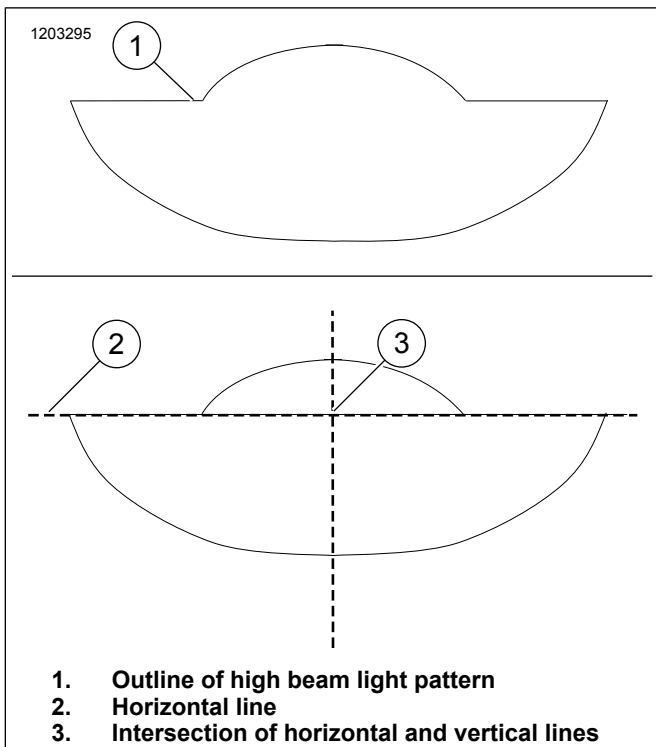

Figure 10. Alignment of Headlamp High Beam
2. See Figure 10. With vehicle laden and upright, point the front wheel straight forward at wall.
3. Turn on the **high beam**. Align the center of the **high beam** such that the beam pattern is symmetric on the left and right side of vertical line (3).